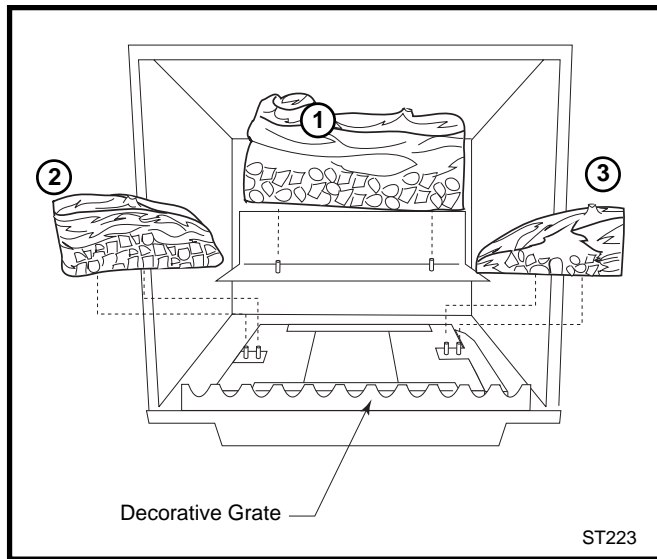

Fig. 34 Install the back, left and right logs.
2. Install the rear log (1) by centering it side to side on the sheet metal shelf at the back of the firebox. (Fig. 34)
3. Install the left (2) and right (3) middle logs by engaging holes on their bottoms with pins on the burner brackets. (Fig. 34)